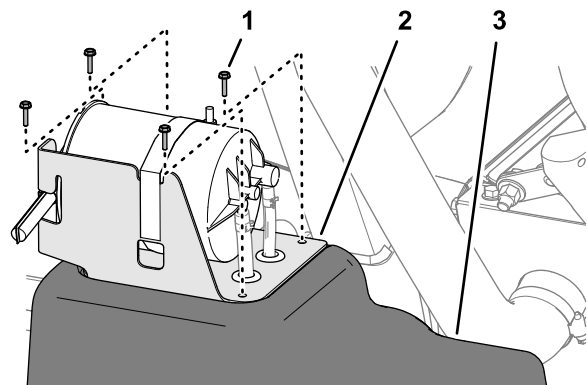

Figure 116
2. At the fuel tank, remove the 4 screws (#10 x 3/4 inch) that secure the carbon-canister bracket to the top of the fuel tank (Figure 116).